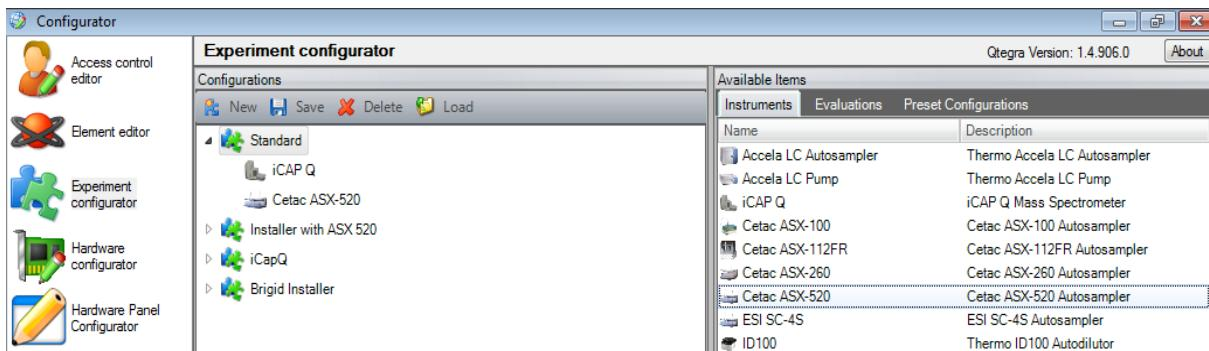

Figure 37: Configurator setup.
- 13) Using Qtegra, open the **Configurator** program, select the **Experiment Configurator** tab, then select your current configuration. Next, drag and drop the **Cetac ASX-520** instrument into your configuration. See Figure 37.